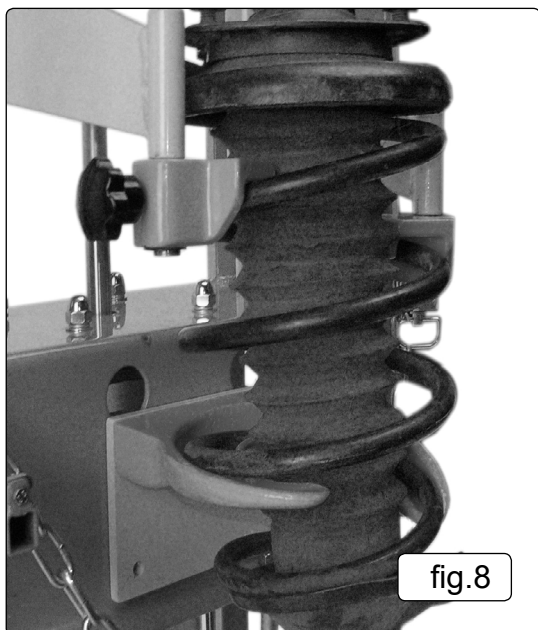

fig.8
- 6.1.3. Swing the upper arms (parts K51) into position and locate the upper clamps on the uppermost available coil (fig.8). Ensure that the coil is placed inside the recesses of the clamp to ensure that the coil will not break free under compression.